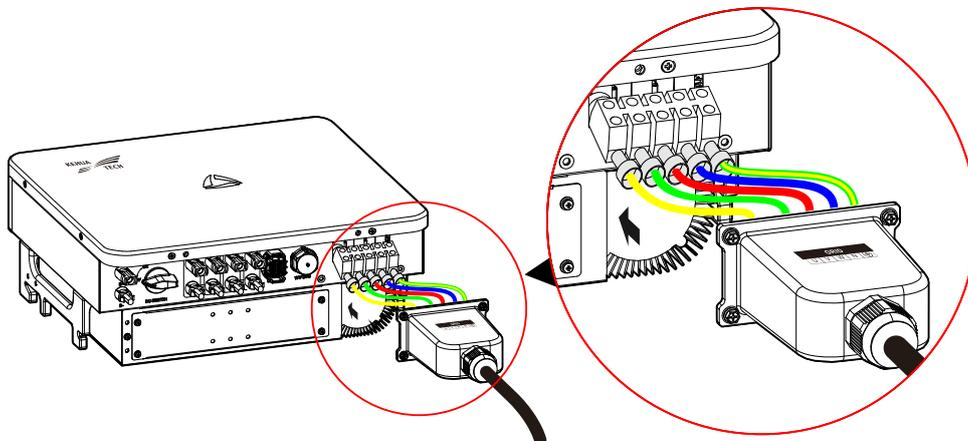

Figure3-26 Connect the AC output wire
- Step 2 Draw the AC output wire through the AC output waterproof cover, crimp them to the tube terminals, and then fasten them to corresponding wiring terminal by screwdriver, as shown in Figure3-26.